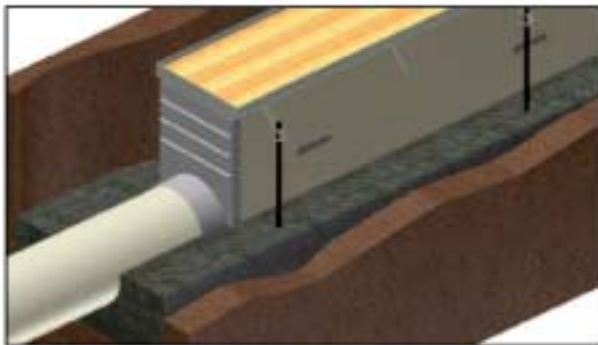

Figure 9.3
- Pour concrete around the bottom of the channel and rebar supports (if used) up to the top of the radius of the channels. See Fig. 9.3